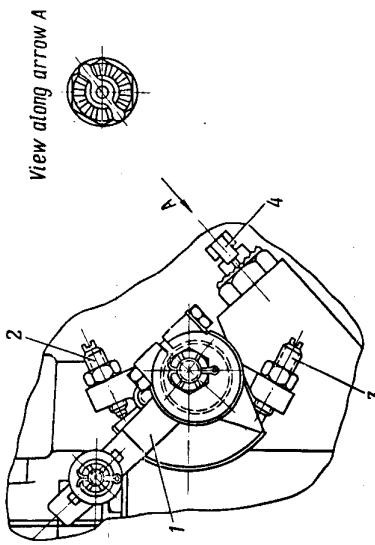

FIG.6. Adjustment of Idling Speed
1. Unlock the thumb-piece of the HP-10A fuel pump (Fig.6).